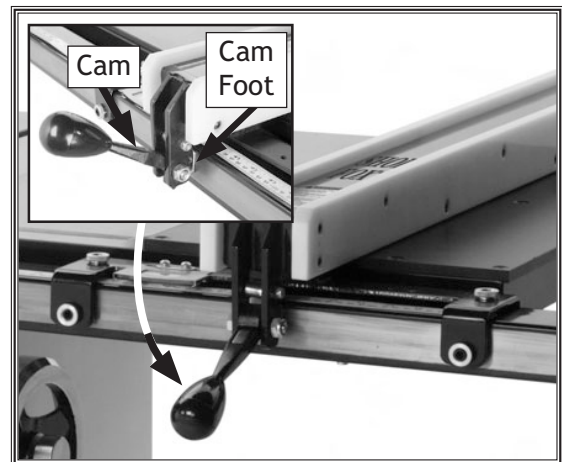

Figure 25. Fence installed on rails.
- Place the fence on the rails on the right hand side of the blade (see **Figure 25**).